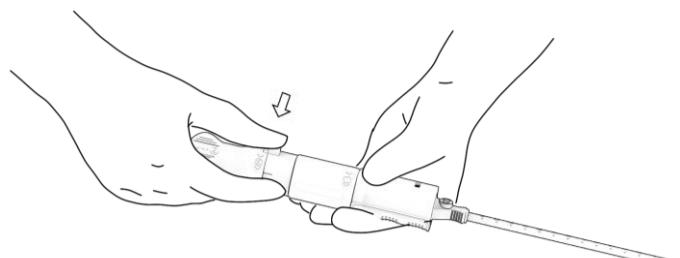

Figure 15. Release cam lock.
- Locate the cam lock (marked '4') and fully depress this green button. Figure 15. Ensure it is fully depressed before proceeding to step 5.